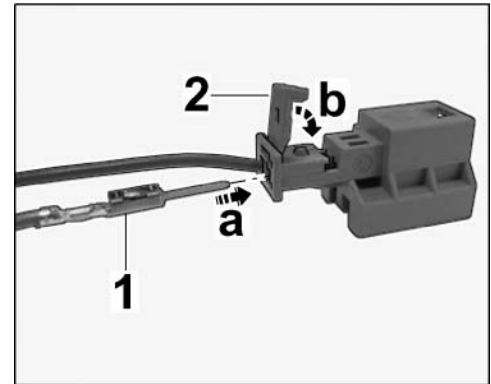

Figure 12
- 2.3.6 Insert pin contact of YE/GY line into pin connector socket (⇒ *Figure 12 -a-*).
Close secondary lock (⇒ *Figure 12 -b-*).